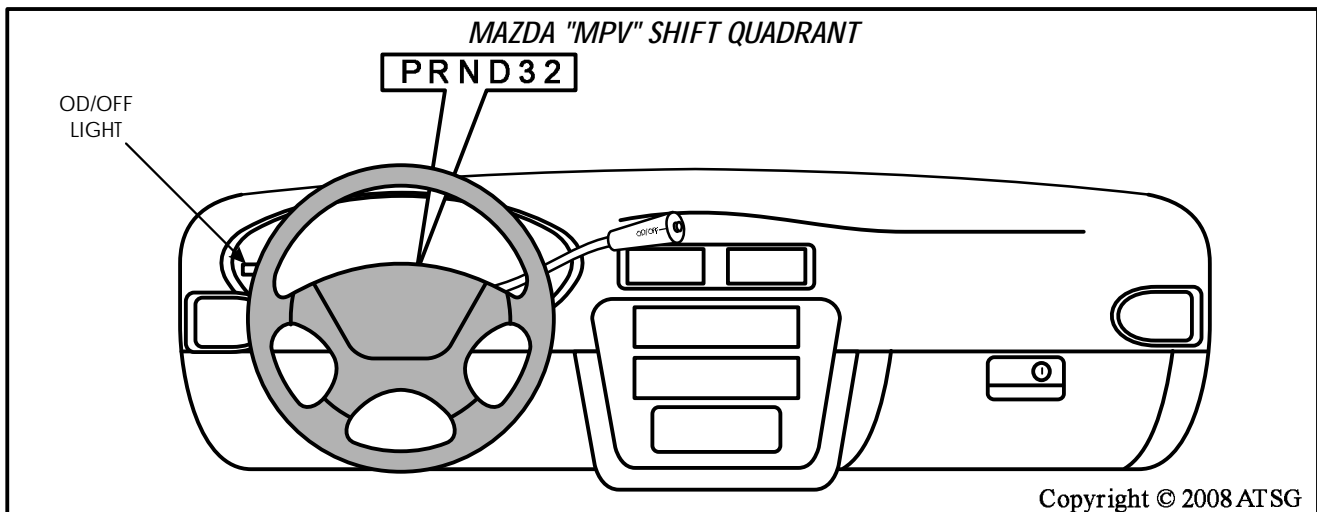

Figure 4
The Mazda "MPV" has a six detent shift quadrant, as shown in Figure 4, along with an OD/OFF switch on the shift lever to cancel overdrive. The shift lever must be used to manually select any of the lower gears.
**D** The Drive position is the normal position for most forward gear operations. The Drive position provides automatic upshifts and downshifts, apply and release of the converter clutch, and maximum fuel economy during normal operation. Drive range allows the transaxle to operate in each of the five forward gear ratios. Downshifts are available for safe passing, by depressing the accelerator. Driver may also cancel overdrive (5th gear), by pressing the OD/OFF button on the end of the shift lever, as shown in Figure 4. This action will illuminate the OD/OFF lamp on the instrument panel